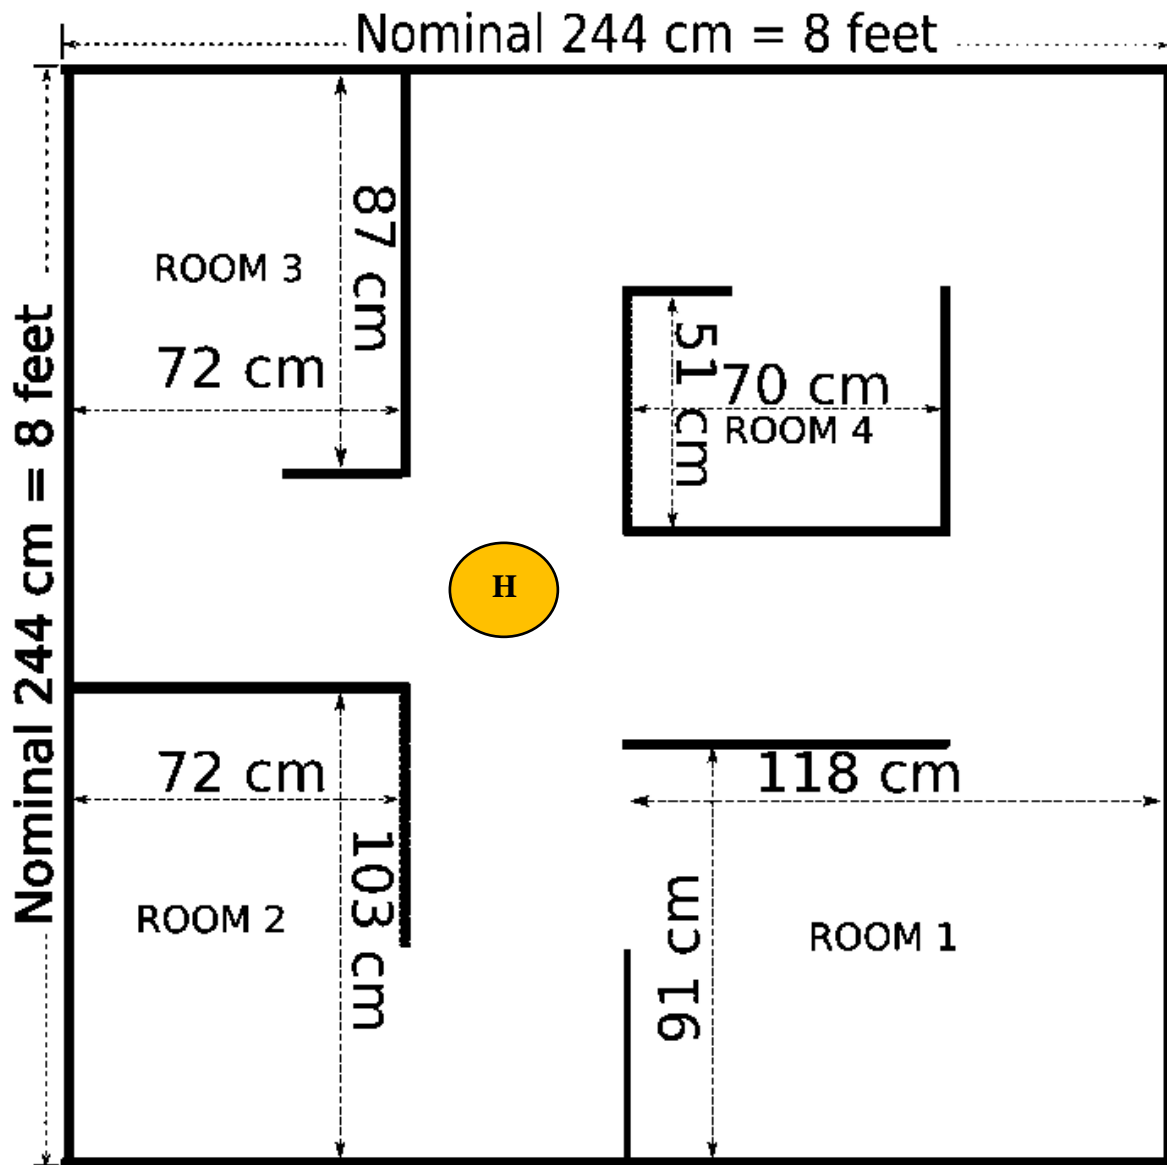

Figure 1: Arena with example floor plan layout.
The arena is shown in Figure 1 with a typical floor plan. The location of the doors in **Rooms 1** and **4** will differ on each trial as described in the trial procedures below.
- The robot will start at the home circle labeled with the H in **figure 1** above. The testing team will place the robot in the home circle with the front of the robot aligned in any orientation.
- Room 4 may be rotated 180 degrees from its position shown in Figure 1.
- Room 1 can have the wall on the left shifted to allow for a door at the "top" or "bottom" (in Figure 1 door is at the "top").